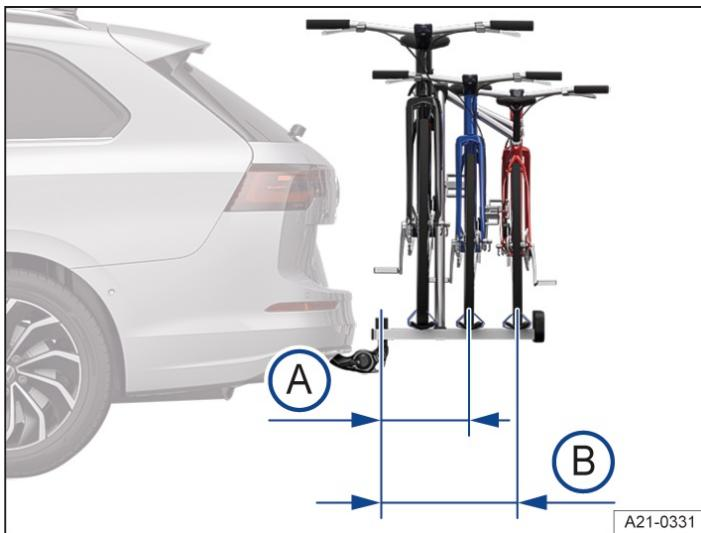

Fig. 2 Illustration of the maximum overhang on a bicycle carrier for two or three bicycles.
- (A) With a load of up to 55 kg: 500 mm (approx. 19.7 in).
- (B) For a load of 75 kg: 700 mm (approx. 27.6 in).
For bicycle carrier systems with two bicycles, the maximum overhang must not exceed 500 mm → Fig. 2 (A) from the middle of the ball head to the middle of the rail of the last bicycle carrier. The overhang must not exceed 700 mm → Fig. 2 (B) for bicycle carrier systems with three bicycles.